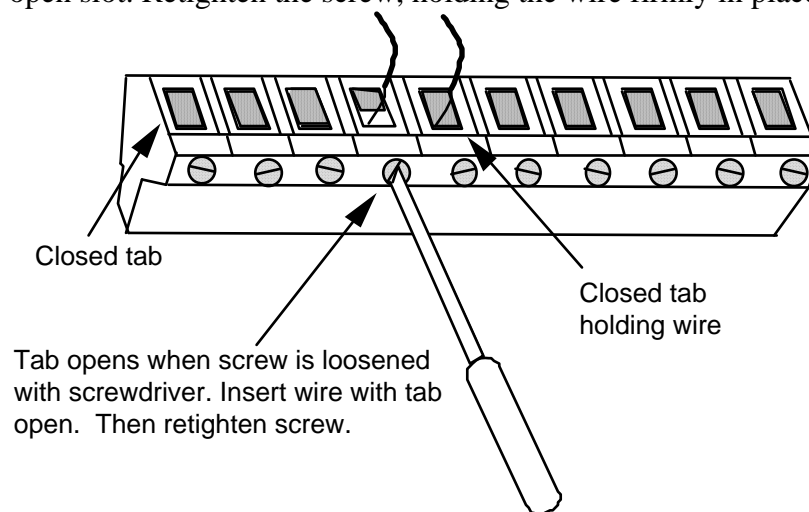

Figure 2-2. Attaching a wire to a phoenix connector
8. To connect a wire, loosen the screws that correspond to the terminal referenced in the following figure and tables, so that the corresponding slot to the right will open. See Figure 2-2. Insert the bare part of the wire 90% of the way into the the open slot. Retighten the screw, holding the wire firmly in place.